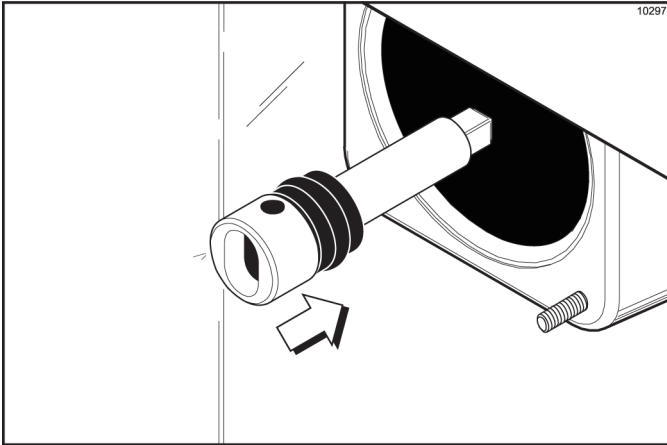

Figure 6-4
2. Install the beater driveshaft through the rear shell bearing in the freezing cylinder and engage the square end firmly into the driveshaft coupling. Be sure the driveshaft fits into the drive coupling without binding. (See Figure 6-4.)